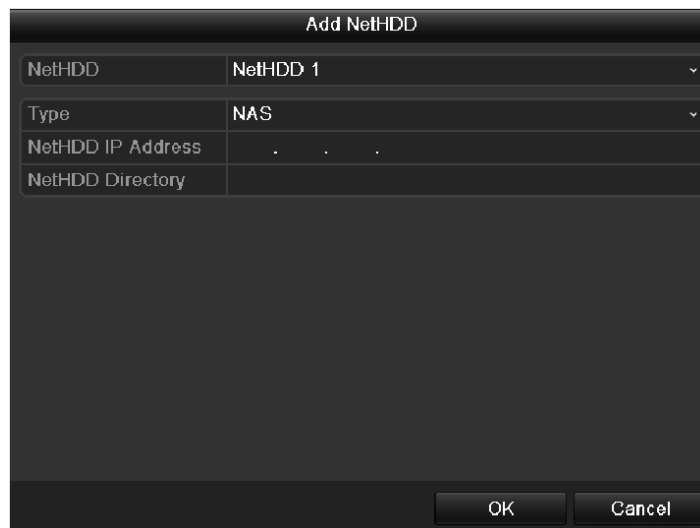

Figure 10.5 Adding NetHDD Interface
2. Click the **Add** button to enter the Add NetHDD interface, as shown in Figure 10.5.